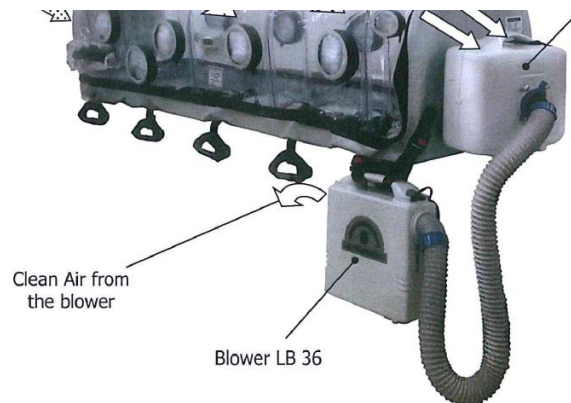

Figure 1 (for ref. only) ISOARK N36-7
- ISOARK N 36 biocontainment isolation system is installed in accordance with the prescriptions specified by the Manufacturer, paying particular attention to properly fix the Ventilation system LB36 and relevant ventilation tube and ensuring enough space is left in front of Air Inlet with particle filter to allow proper air flow (see fig. 1)